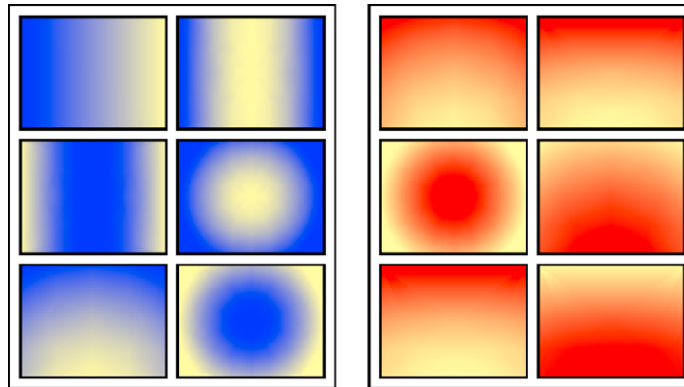

Fig. 8.12 Fourth example – Colour gradient hatching
### Fourth example – Colour gradient hatching (Fig. 8.12)
Fig. 8.12 shows two examples of hatching from the **Gradient** sub-dialog of the **Hatch and Gradient** dialog.
1. Construct two outlines each consisting of six rectangles (Fig. 8.12).